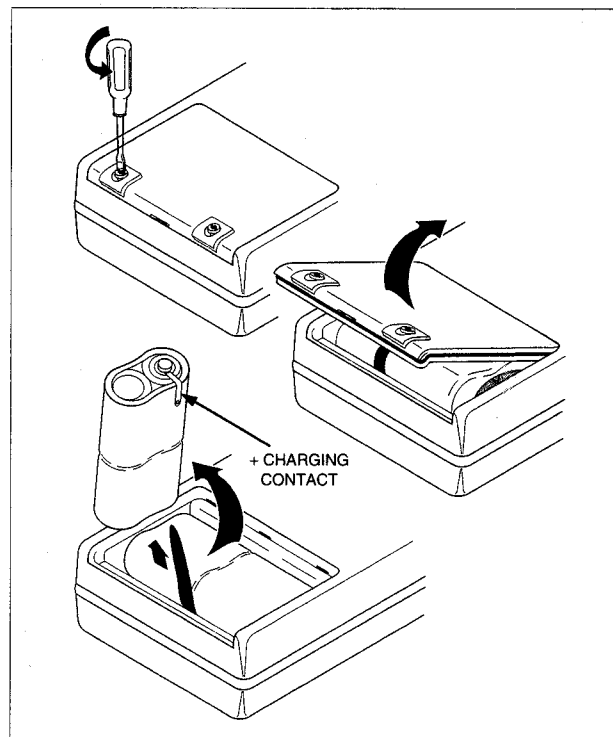

Figure 7-1. Battery Replacement
6. Install a new NiCad battery pack (PM9086/001) or new alkaline batteries (type KR27/50 or R14) as shown in Figure 7-1.
Ensure that the NiCad battery pack charging contact is aligned in the battery compartment as shown in Figure 7-1. Use only the PM9086/001 NiCad battery pack.